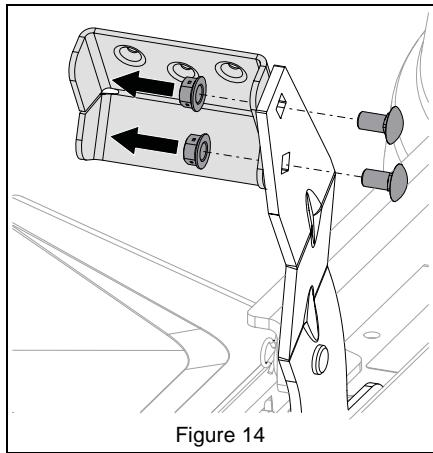

Figure 14
1. Remove hardware securing deck lift pedal to unit and remove pedal. See Figure 14.